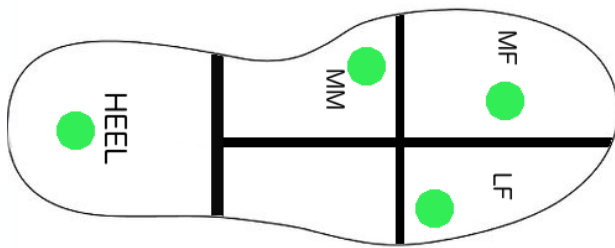

Figure 4: FSR sensor locations.
- Step 2. Place FSR sensors at the Medial Forefoot (MF), the Lateral Mid-foot (LF), the Medial Mid-foot (MM), and Heel as shown in Fig 4.